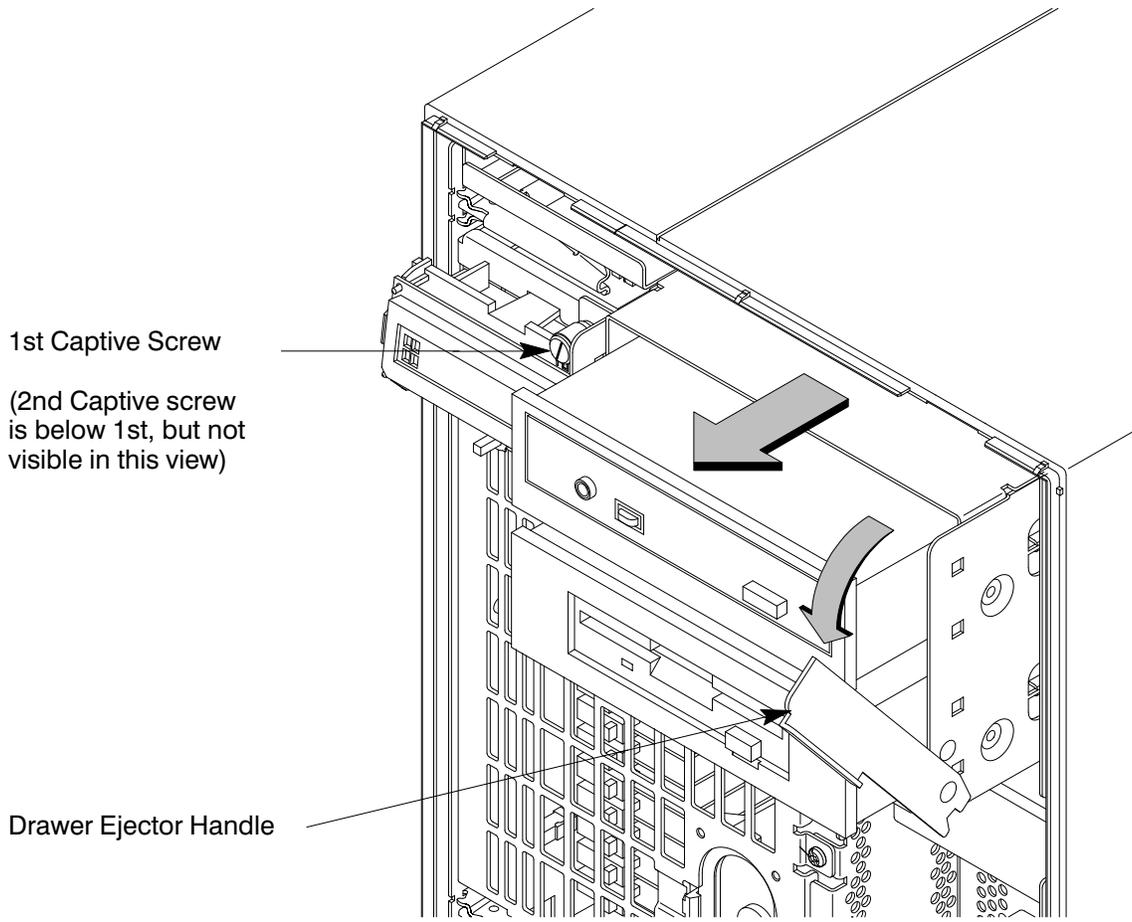

Figure A-17. Removing Storage Drawer from System Unit
2. Unscrew the two captive screws on the left side of the Storage Assembly and pull down the drawer ejector handle on the right side of the Storage Assembly, as shown in Figure A-17.